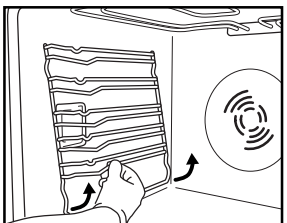

Fig. 6
1. Remove the side accessory holder grilles (Fig. 6).
2. Remove the side accessory holder grilles, if present (Fig. 6).